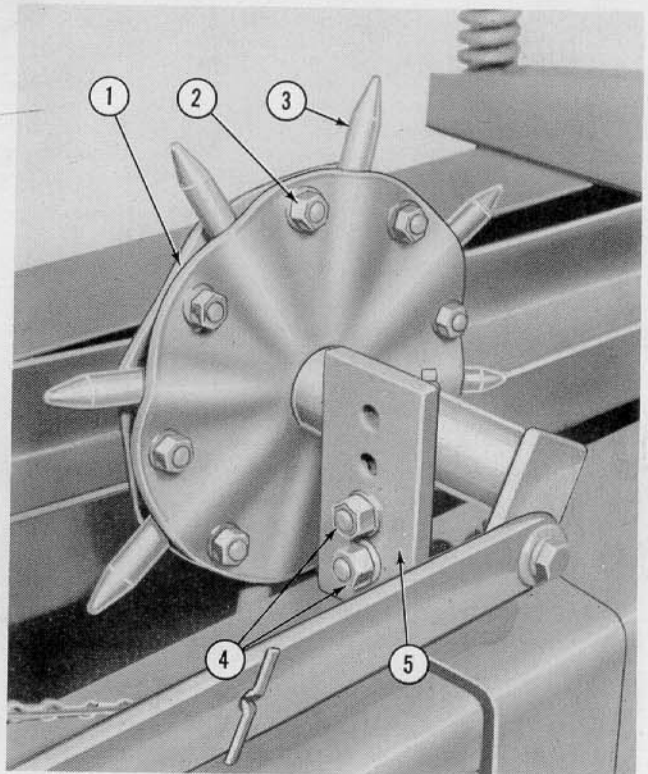

Figure 16
4. Turn the metering wheel (1), Figure 16, until the knotter mechanism is tripped.
Bale Lengths: The metering wheel on your Ford Hay Baler may be adjusted for bale lengths of 36 and 42 inches. To obtain 36 inch bales, the teeth (3), Figure 16, should extend approximately $1\frac{1}{2}$ inches beyond the metering wheel (1) with the bolts (4) in the lower holes as shown. To obtain 42 inch bales, adjust the metering wheel as follows:
1. Remove the hex nuts, lockwashers and bolts (4), Figure 16, and locate the metering wheel assembly in the middle two holes of the support bracket (5). Reinstall the bolts, lockwashers and hex nuts and tighten securely.
2. Loosen the eight bolts (2), Figure 16, in the metering wheel and move all the teeth out to approximately $2\frac{1}{4}$ inches from the wheel (1). Tighten the bolts (2) securely.
3. Remove the metering wheel (1), Figure 16.